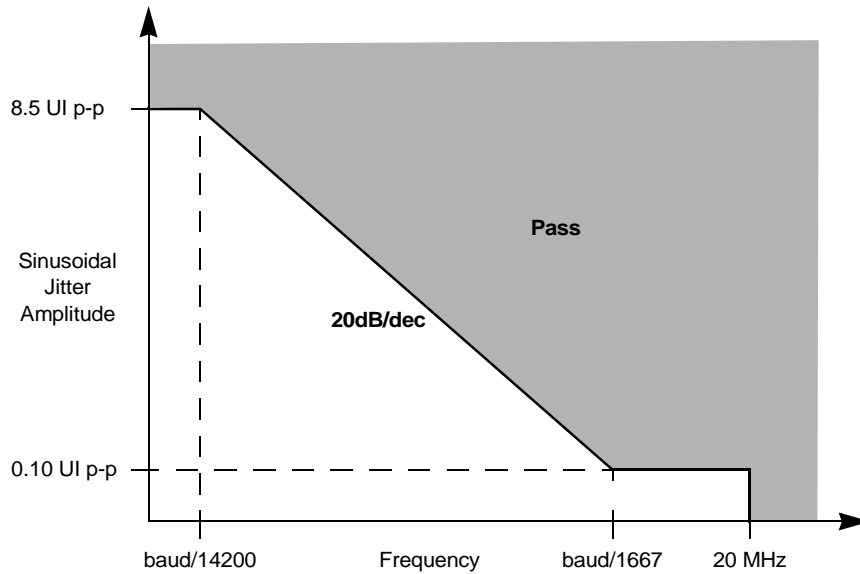

Figure 17. Single Frequency Sinusoidal Jitter Limits for Data Rates for 3.125 Gbps and Below
2. Total jitter is composed of three components, deterministic jitter, random jitter and single frequency sinusoidal jitter. The sinusoidal jitter may have any amplitude and frequency in the unshaded region of <a href="#">Figure 17</a> . The sinusoidal jitter component is included to ensure margin for low frequency jitter, wander, noise, crosstalk and other variable system effects.